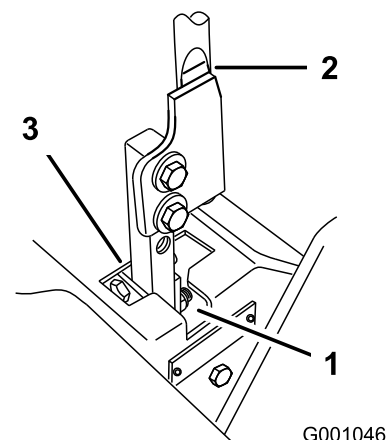

Figure 74
5. Move the lever to the neutral position but not locked (Figure 74).
6. Pull the lever back until the clevis pin (on arm below pivot shaft) contacts the end of the slot (just beginning to put pressure on the spring) (Figure 74).
7. Check where the control lever is relative to notch in console (Figure 74). It should be centered allowing lever to pivot outward to the neutral lock position.